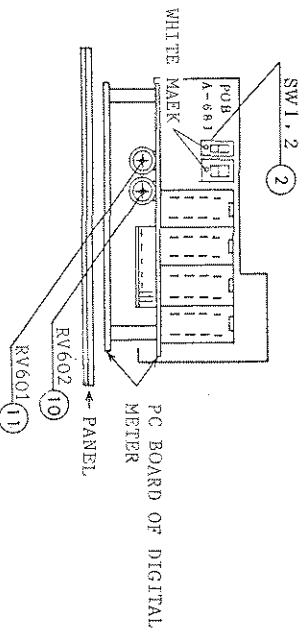

Figure 4-6. Layout of components on top of panel
(1) Press the EXT button (external voltage measurement switch) and apply a voltage of 190.0 mVDC (*) between the HIGH and LOW terminals. Adjust potentiometer RV602 (10) in Figure 4-6) so that the meter reads 190.0 $\pm$ 1 digits, at ambient temperature 23°C $\pm$ 1°C (73.4°F $\pm$ 1.8°F).
(2) Apply a voltage of 1.900 V (*) between the HIGH and LOW terminals. Adjust potentiometer RV601 (11) in Figure 4-6) so that the meter reads 1.900 $\pm$ 1 digits, at ambient temperature 23°C $\pm$ 1°C (73.4°F $\pm$ 1.8°F).
(1) Turn the VOLTAGE setting control to the counterclockwise extreme position so that the output voltage becomes approximately zero volts. Apply a voltage of 190.0 mV (*) with respect to the "-" terminal as a ground. Adjust potentiometer RV602 (10) in Figure 4-6) so that the meter reads 190.0 $\pm$ 1 digits, at ambient temperature 23°C $\pm$ 1°C (73.4°F $\pm$ 1.8°F).
(2) Apply a voltage of 1.900 V (*) between the output terminals. Adjust potentiometer RV601 (11) in Figure 4-6) so that the meter reads 1.900 $\pm$ 1 digits, at ambient temperature 23°C $\pm$ 1°C.